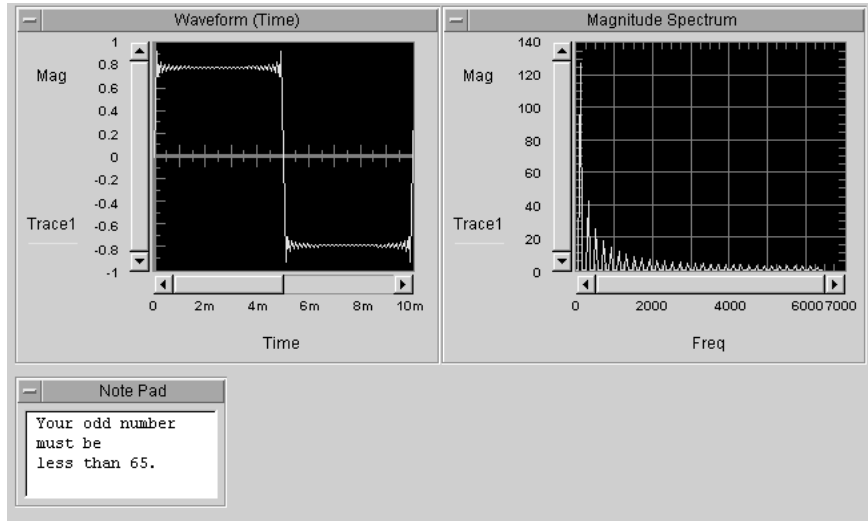

Figure 18.18. LAB 18.3 panel display after running
31. Click OK; see Figure 18.18 for the display of your results.